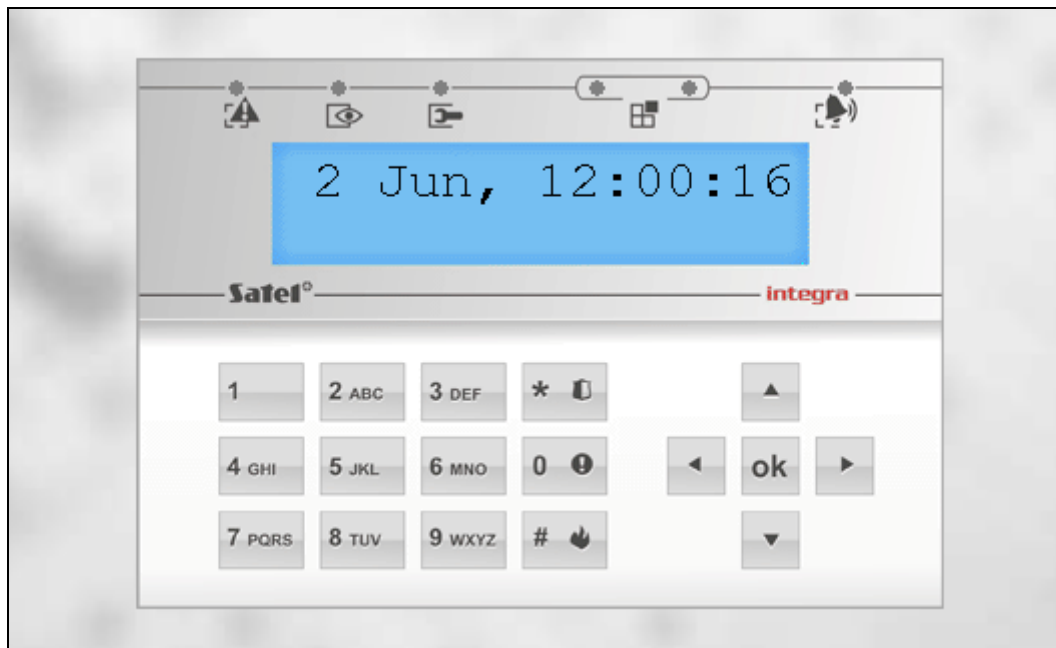

Fig. 20. Web browser: virtual keypad.
5. The virtual keypad will be displayed in the browser (Fig. 20).